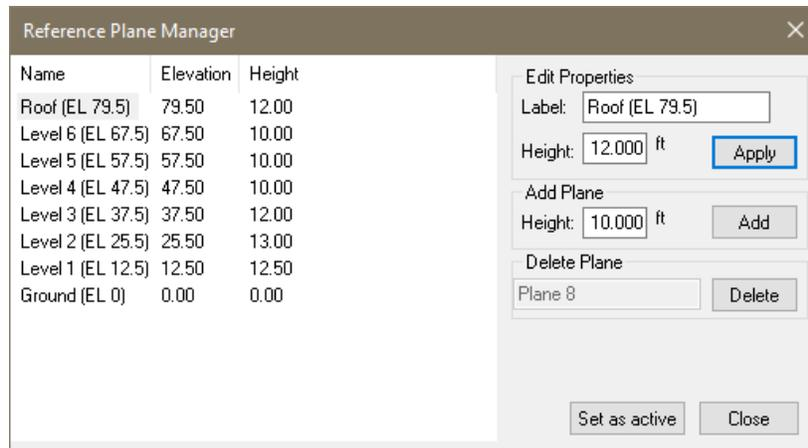

Figure 2-8
- Continue adding levels, assigning the levels their names, and assigning their heights, until you have all the levels shown in **FIGURE 2-8**.